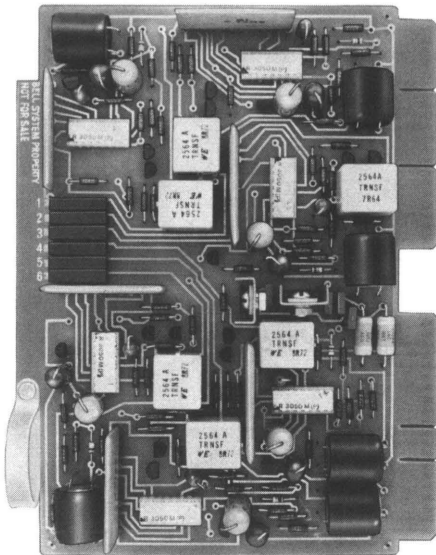

Fig. 8—75A Control Unit
- Unit, Control, 75A (one per six 101B or C IUs in 604B or 604C panel) (Fig. 8)